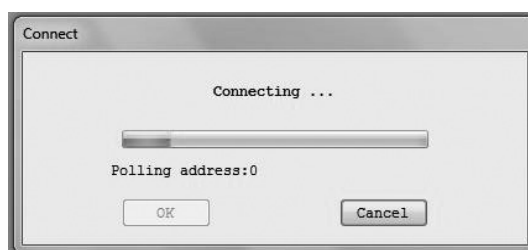

Fig. 3-10
- (3) Click "OK" button in the message box to start the connection. Then, the following window (Fig. 3-10) will be displayed. It is possible to check the connection status with the progress bar in the center of window.